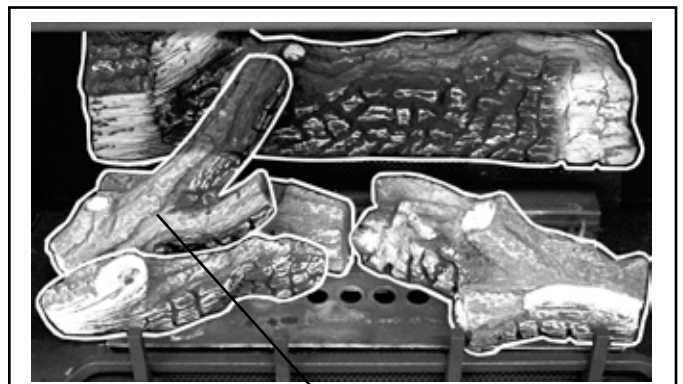

Figure 26 Top Left Log
5. Install the Top Left Log onto the corresponding locating pin and indentation on Center Log as shown in **Figure 26**.